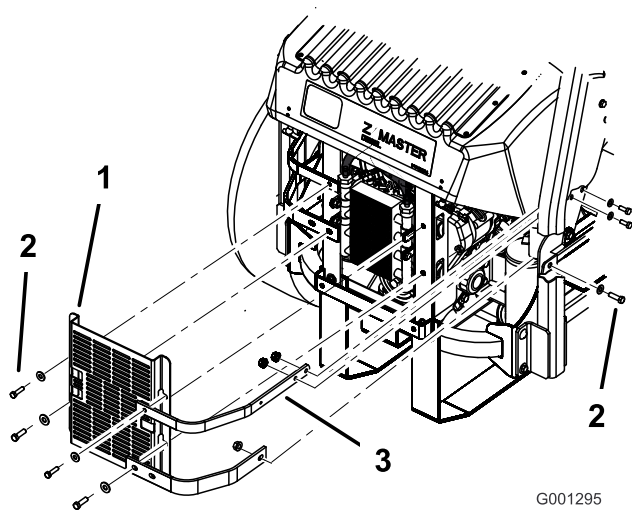

Figure 70
3. Remove the 4 bolts holding the oil cooler shield to the rear frame (Figure 70).
4. Remove the 3 bolts holding the engine straps to the side of the machine (Figure 70).
- Install the oil cooler shield and engine straps to the rear frame with the 4 bolts previously removed (Figure 70).
- Install the engine straps to the side of the machine (Figure 70).